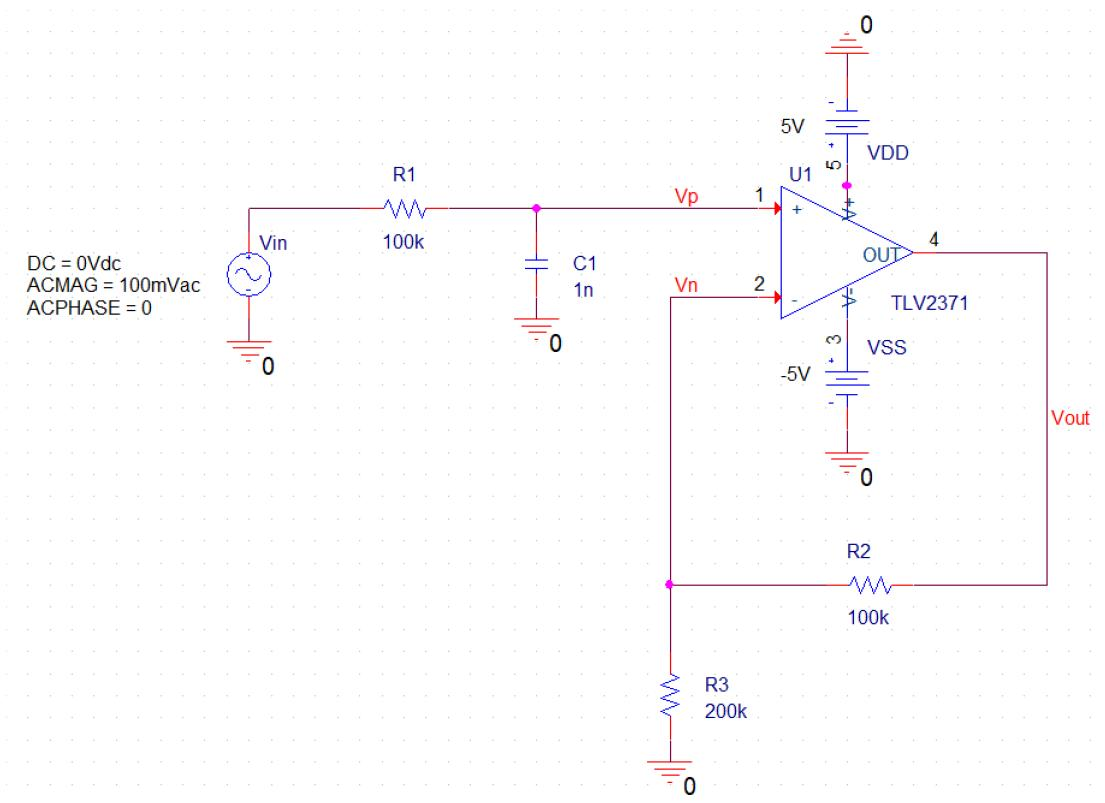
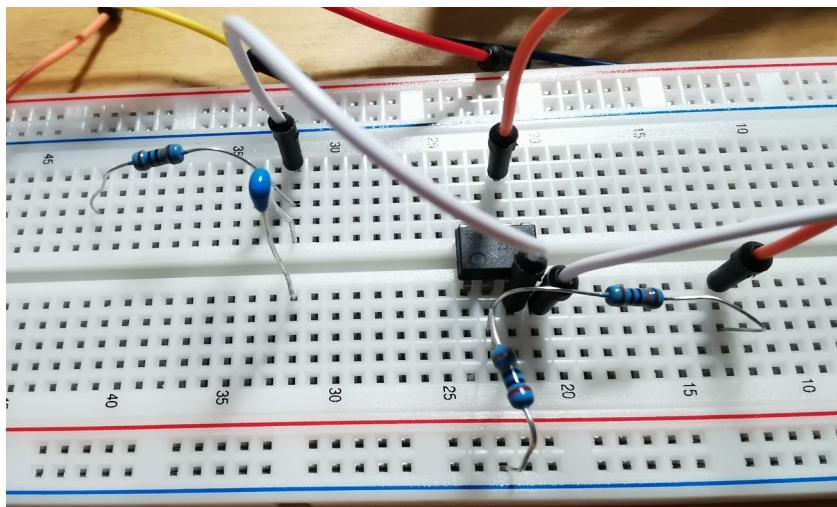

Fig. 1 Schematic diagram of the first-order low-pass filter
Fig. 4 Experimental setup for the first-order low-pass filter
- 1.1 In PSpice, construct the first-order low-pass filter (LPF), as shown in Fig. 1 and load the Library Op-Amp TLV2371 created in Lab 4.
- 1.5 Based on Fig. 1, construct the measurement setup for the first-order LPF, as shown in Fig. 4.